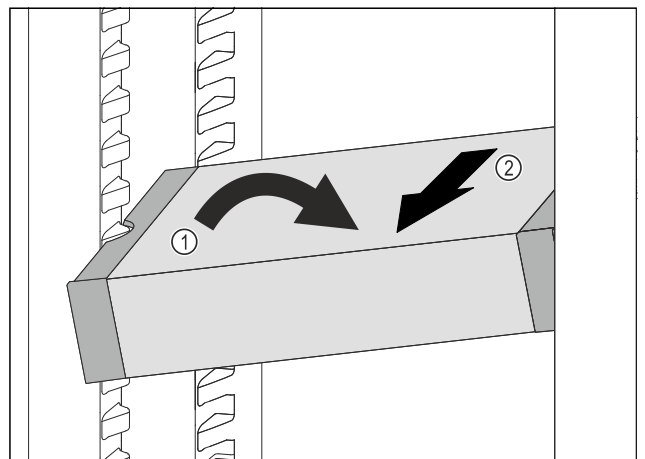

Fig. 61
- ▶ Set VarioSafe in refrigerator compartment at an angle. Fig. 61 (1)
- ▶ Take VarioSafe out to the front. Fig. 61 (2)